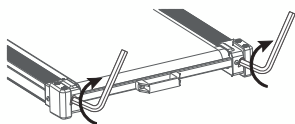

Figure 3
2.using the hex tool, turn both idler roller screws clockwise 1/2 of turn(refer to figure3).